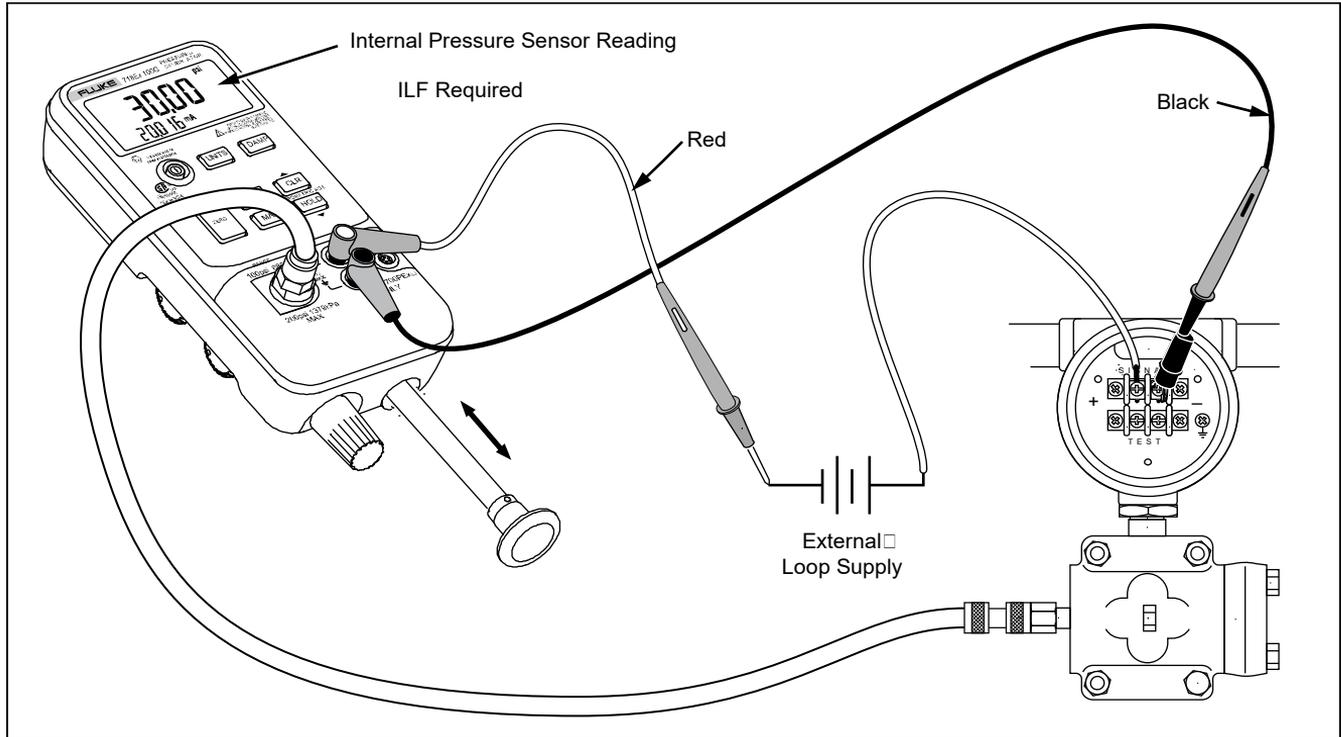
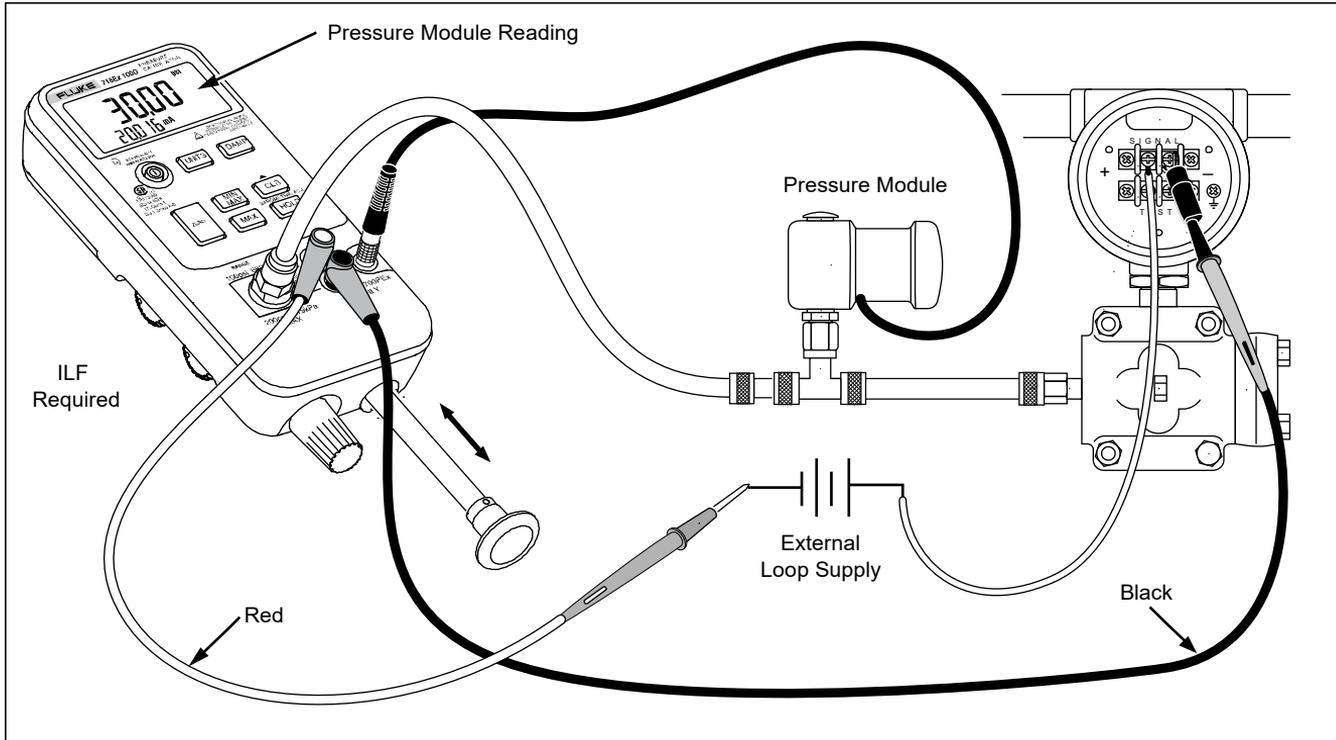

Figure 3. Internal Pressure Sensor with Internal Pump
Figure 4. Pressure Module with Internal Pump
The preferred use for the internal pump is shown in Figure 3, where the Calibrator displays pressure measured with the internal sensor and provided by the internal pump.
The internal pump can also be used with certain Fluke 750PEX Series Pressure Modules. In this case, pressure measured by the pressure module is displayed by the Calibrator. Appropriate pressure modules for each Calibrator model are identified in Table 4. Figure 4 shows the internal pump being used with a pressure module.
2. Connect the pressure transmitter under test to the Calibrator internal sensor as shown in Figure 3 (for internal pressure sensor measurements) or Figure 4 (for pressure module measurements.)